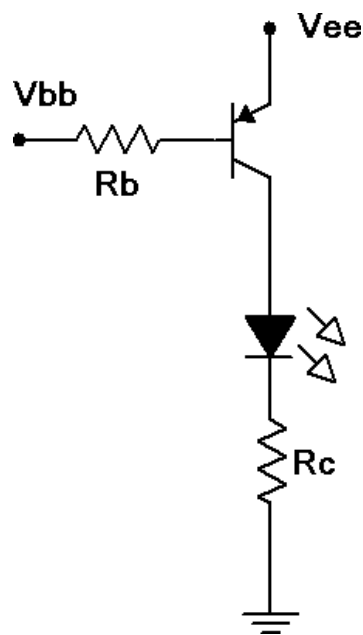

Figure 2
6. Consider the PNP saturating switch of Figure 2 using  $V_{ee} = V_{bb} = 5$  volts,  $R_b = 4.7\text{ k}\Omega$  and  $R_c = 220\text{ }\Omega$ . Calculate the base and collector currents and record them in the first row of Table 3 (Theory). As the circuit is in saturation, the theoretical VCE is close to zero and may be found on the transistor data sheet via the VCE/IC saturation graph. Record this value in the first row of Table 3 as well.
7. Build the saturating switch of Figure 2 using  $V_{ee} = V_{bb} = 5$  volts,  $R_b = 4.7\text{ k}\Omega$  and  $R_c = 220\text{ }\Omega$ . Measure and record the base and collector currents, and record the collector-emitter voltage in the first row of Table 3 (Experimental). Also compute and record the deviations between theory and experimental results.